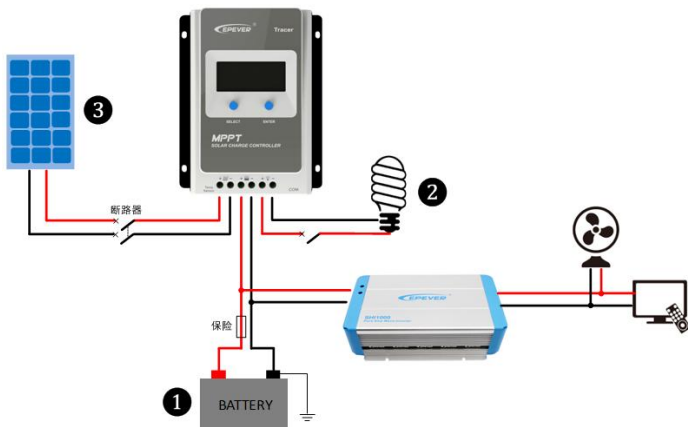

Figure 2-2 Schematic of wiring diagram
**Step 2:** Connect the system in the order of ① battery → ② load → ③ PV array in accordance with Figure 2-2, "Schematic Wiring Diagram" and disconnect the system in the reverse order ③ ② ①.